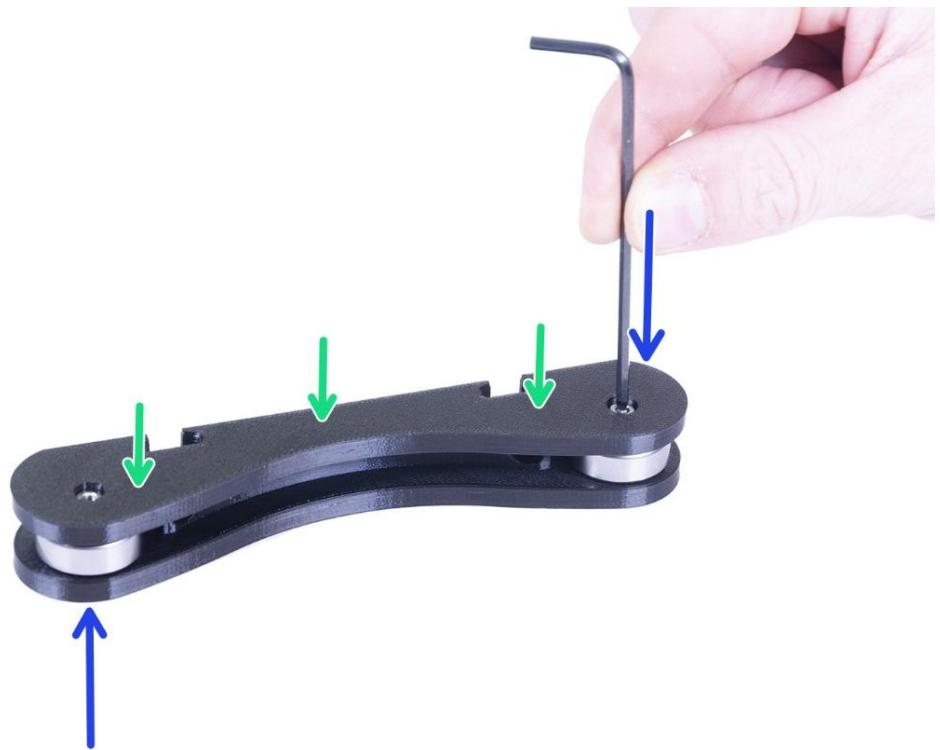

Figure 5.4.4
- C:** As shown in Figure 5.4.4. Put the second BASE part on top of the bearings.
- D:** As shown in Figure 5.4.4. Insert the M3x12 screw from the top and tighten it. Flip the base assembly over and do the same.